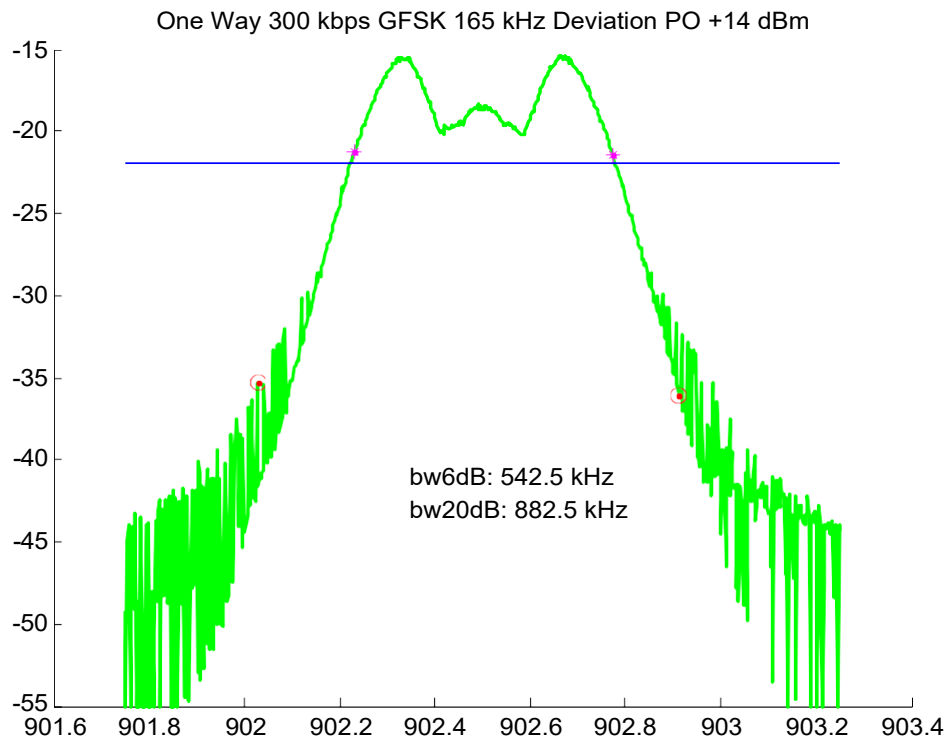

**Figure 8 – RF Spectrum using GFSK modulation at 150 kbps, 69.8 kHz deviation**
- 1) Frequency hopping system: If the 6 dB bandwidth exceeds 250kHz, at least 25 channels must be used, having a duration of less than 0.4 seconds in a 10 second period, and a maximum output power of 250 mW. The maximum 20 dB bandwidth is 500 kHz. Practically (with the CC1101, CC1150, and CC1110), this can be achieved using GFSK modulation at a data rate of 175 kbps or less and a deviation of 76.2 kHz or less. For this application, a data rate of 150 kbps and a deviation of 69.8 kHz are adequate. Refer to the spectrum plot, Figure 8.